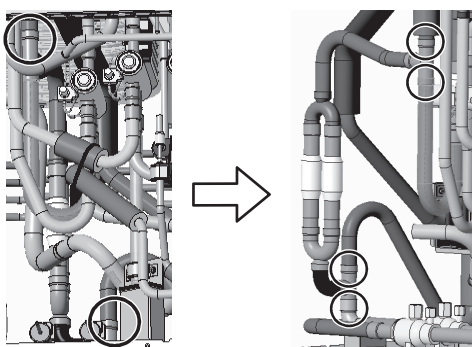

Figure 7
- (6) Braze the replacement parts at four areas. (See Figure 7.)